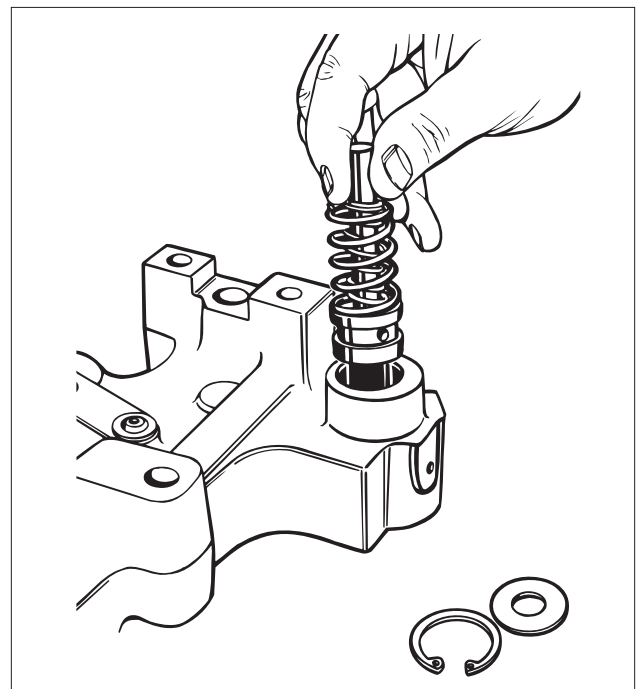

FIG. 42
5. Remove the retainer, spring and slave piston. Check for nicks or burrs that could cause binding (see Fig. 42).